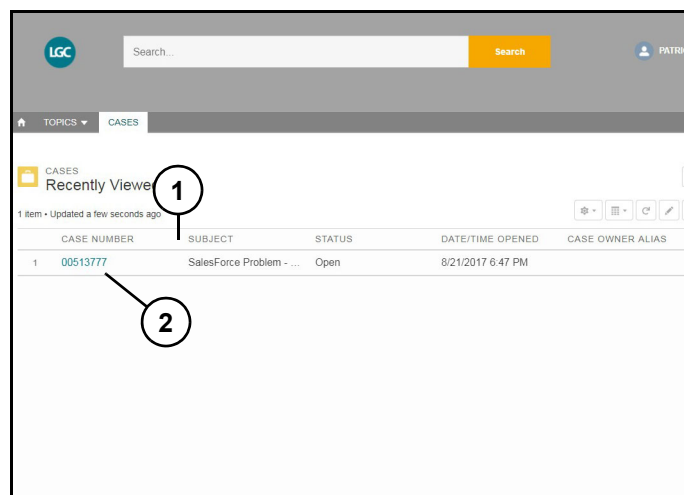

Figure 8
3. Cases can be sorted by clicking on column headers. Cases can be accessed by clicking on case number (2). (Figure 8)